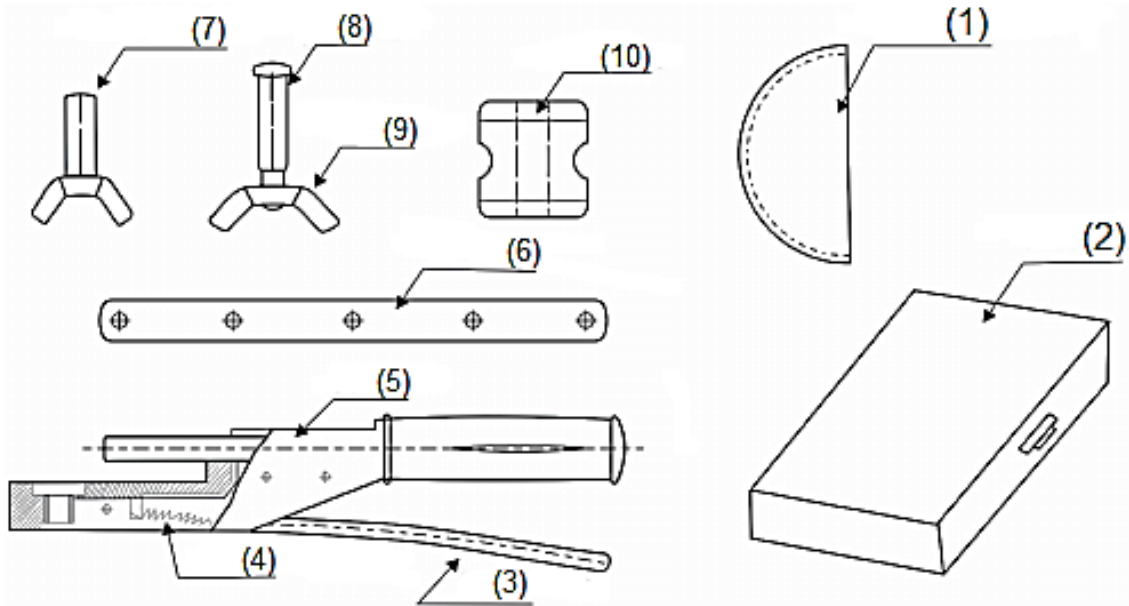

Figure 1: Parts of pipe bender and their names
First install the bending tool before using it. Check all parts for completeness (Fig. 1). Refer to the chart of the "Other remarks" section to know how many parts should be there.
- Before mounting and using, check all components for completeness and operability. Refer to the following chart to know the parts, names, and quantities (v.e. Fig. 1).